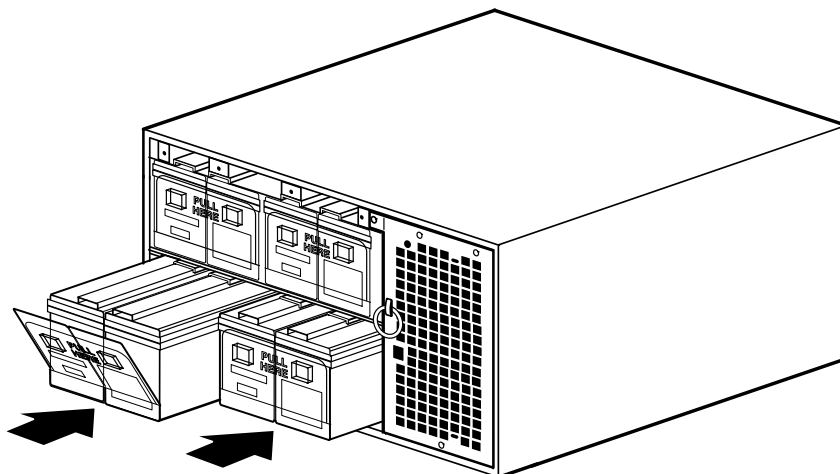

Figure 84. Installing the UPS Battery Trays
- Slide the new battery trays into the cabinet (see Figure 84). Verify that each tray is properly aligned before sliding the tray in.